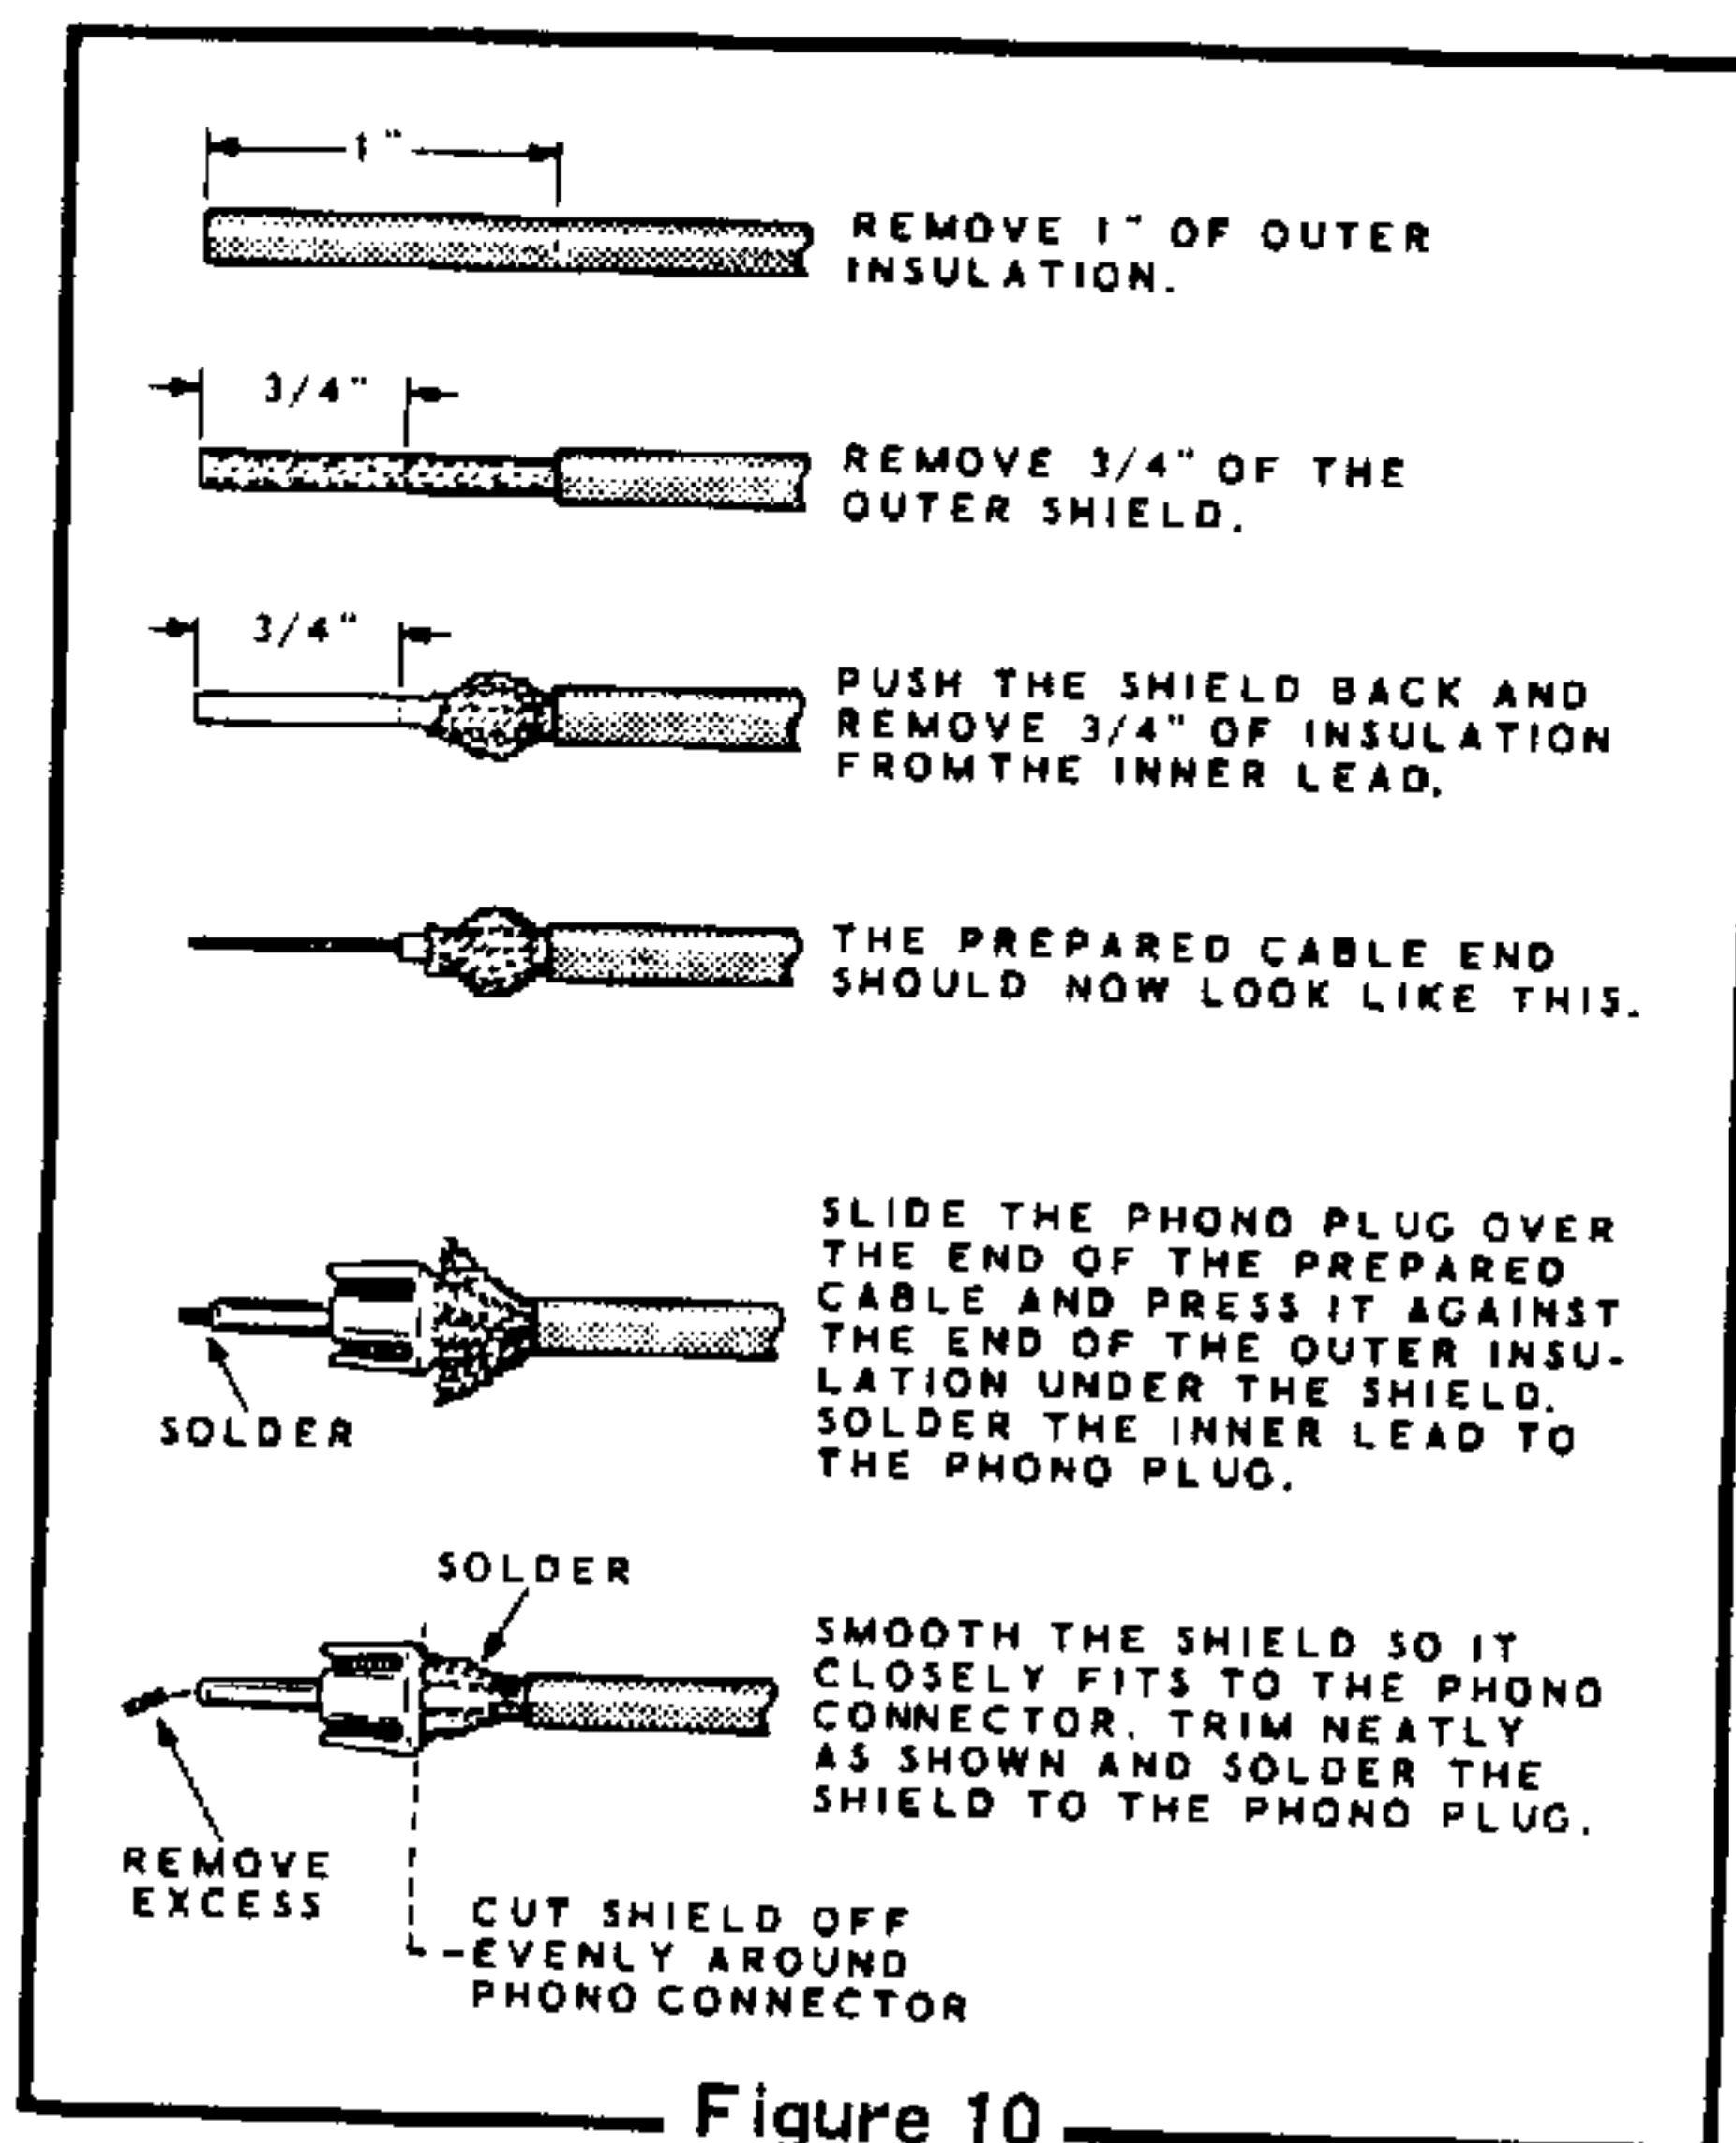

Figure 10
1) Attach a phono plug to one end of the length of coaxial cable as shown in Figure 10. NOTE: RG-62 cable (Heath #343-5) is supplied in your kit. Use only this type of cable.